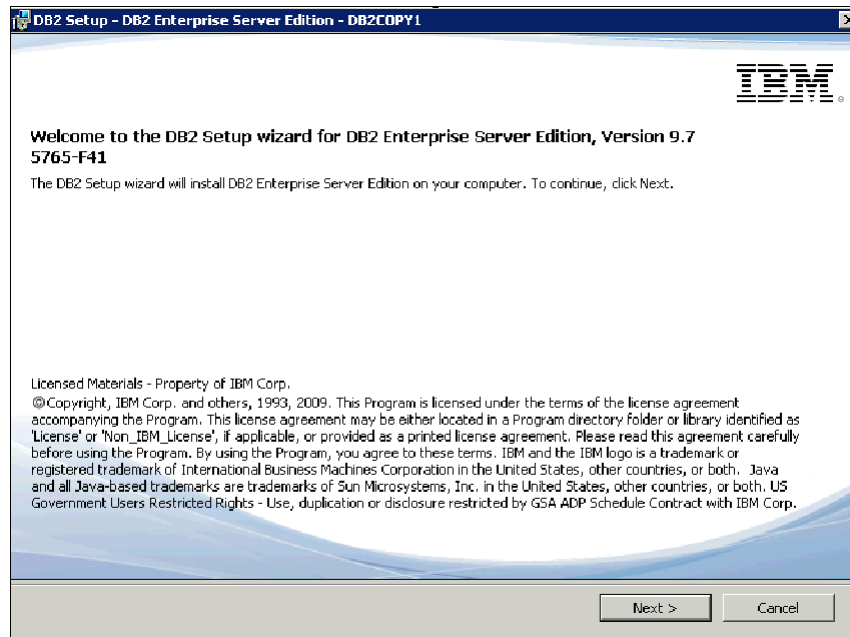

Figure 12-4 Setup wizard
3. The DB2 Setup wizard window opens (Figure 12-4). Click **Next** to proceed.